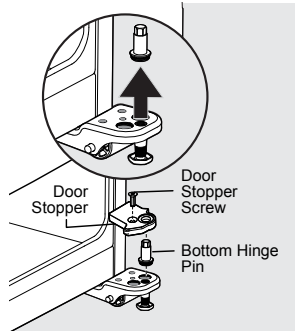

Figure 4
10. Remove the screw from the door stopper with a Phillips screwdriver (see Figure 4).
11. Unscrew the bottom hinge pin from the right-hand position using an adjustable wrench (see Figure 4).